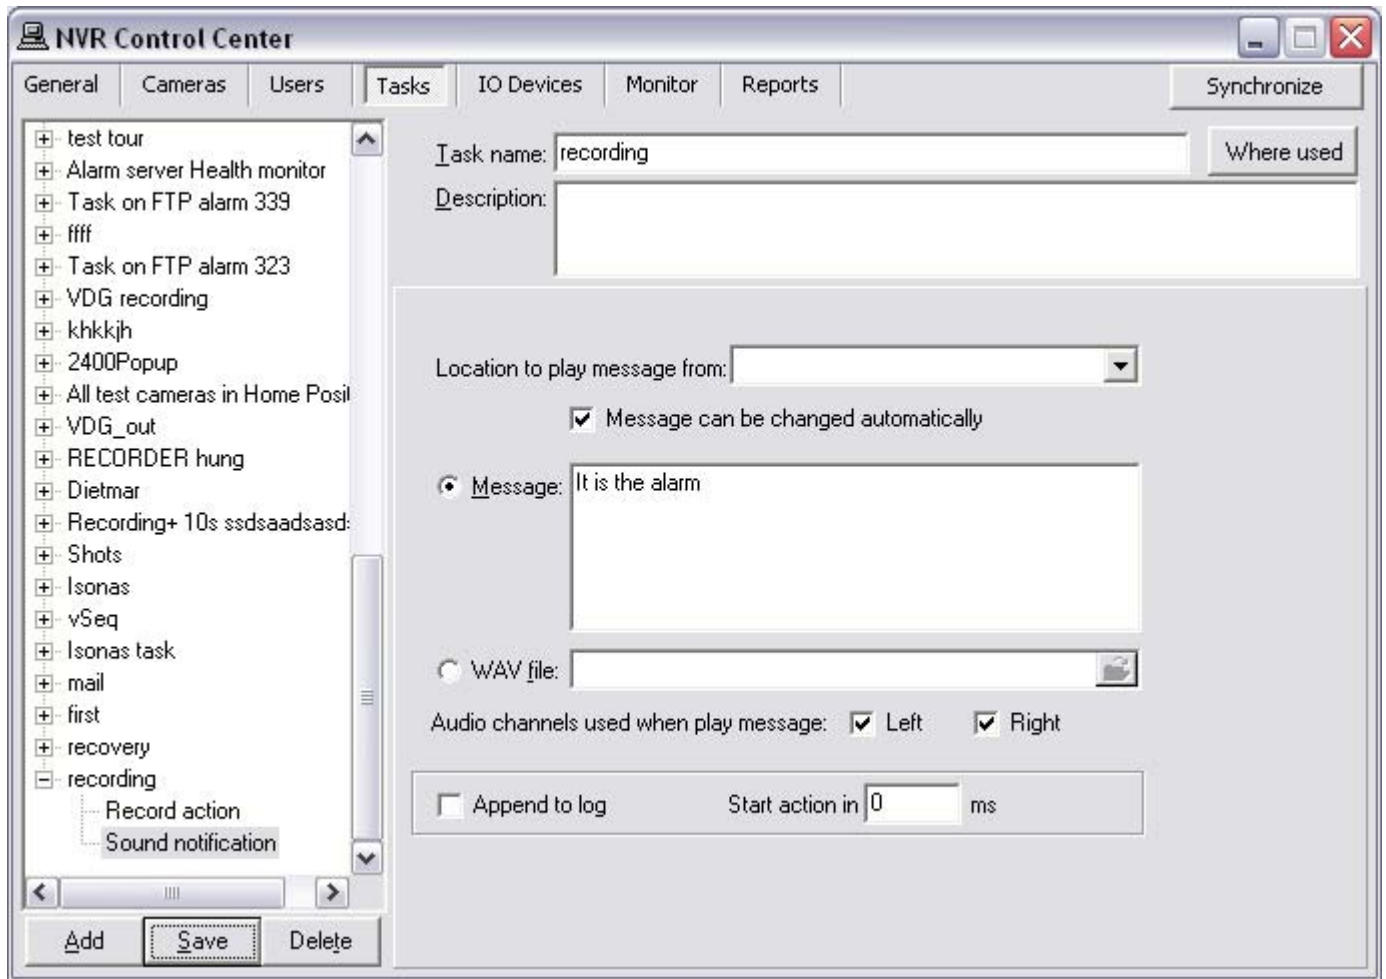

Fig 67. NVR Control Center — Tasks
2. Enter the **Task Name** and **Description** (Fig 67).